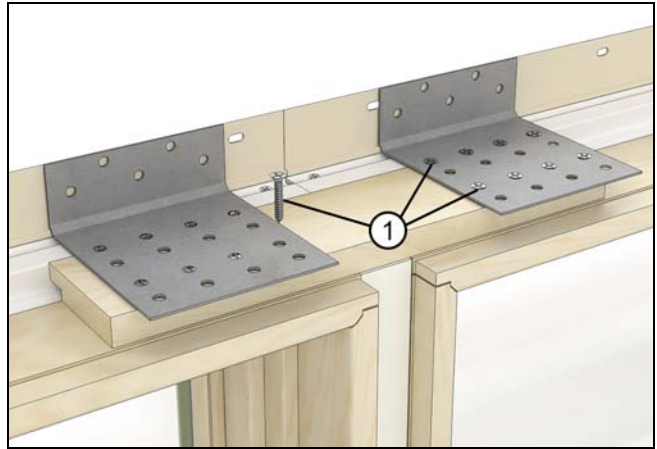

Figure 2
2. Attach the mull clip with eight #8 x 1 1/4" (32) Phillips flat head screws (casement/awning/polygon) or eight #7 x 5/8" (16) screws (IIFD). See Figure 2.